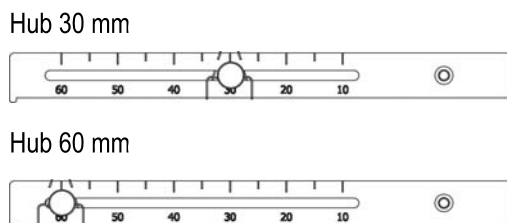

Figure 8
8. Slide the spiral spring and the actuating pin until it is in the correct position and the right stroke (see figure 8) has been set on the lever scale.